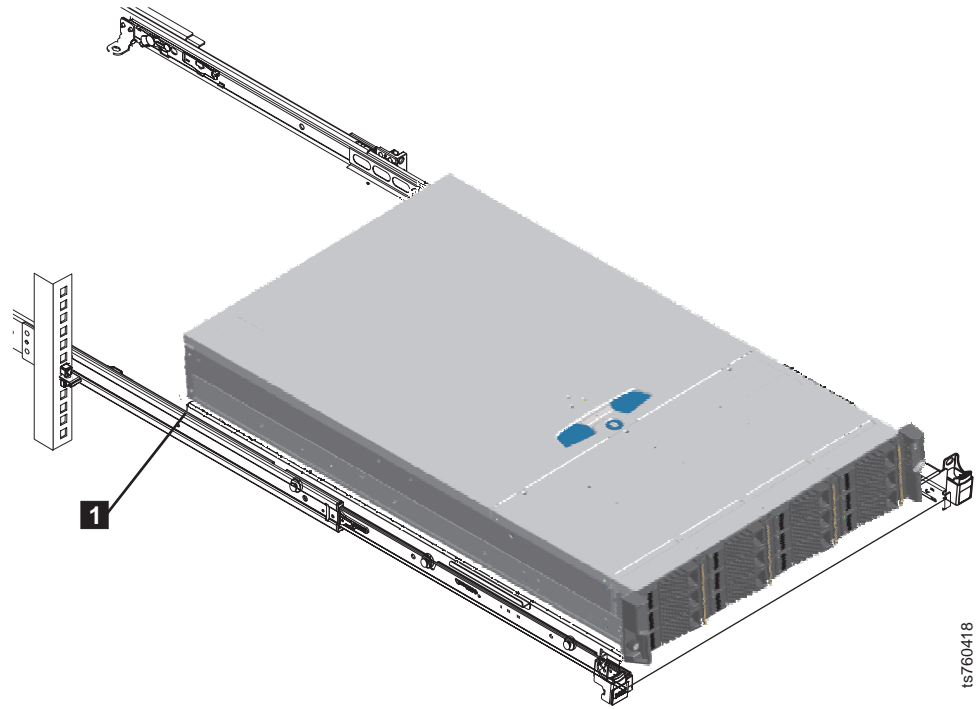

Figure 26. Extending the slide rails and support tray
6. To place the TS7610 or TS7620 server into the service position, push the front tab and pull the slide rails and support tray forward, until the rails are fully extended and click into the locked position **1**. Refer to Figure 26 on page 49